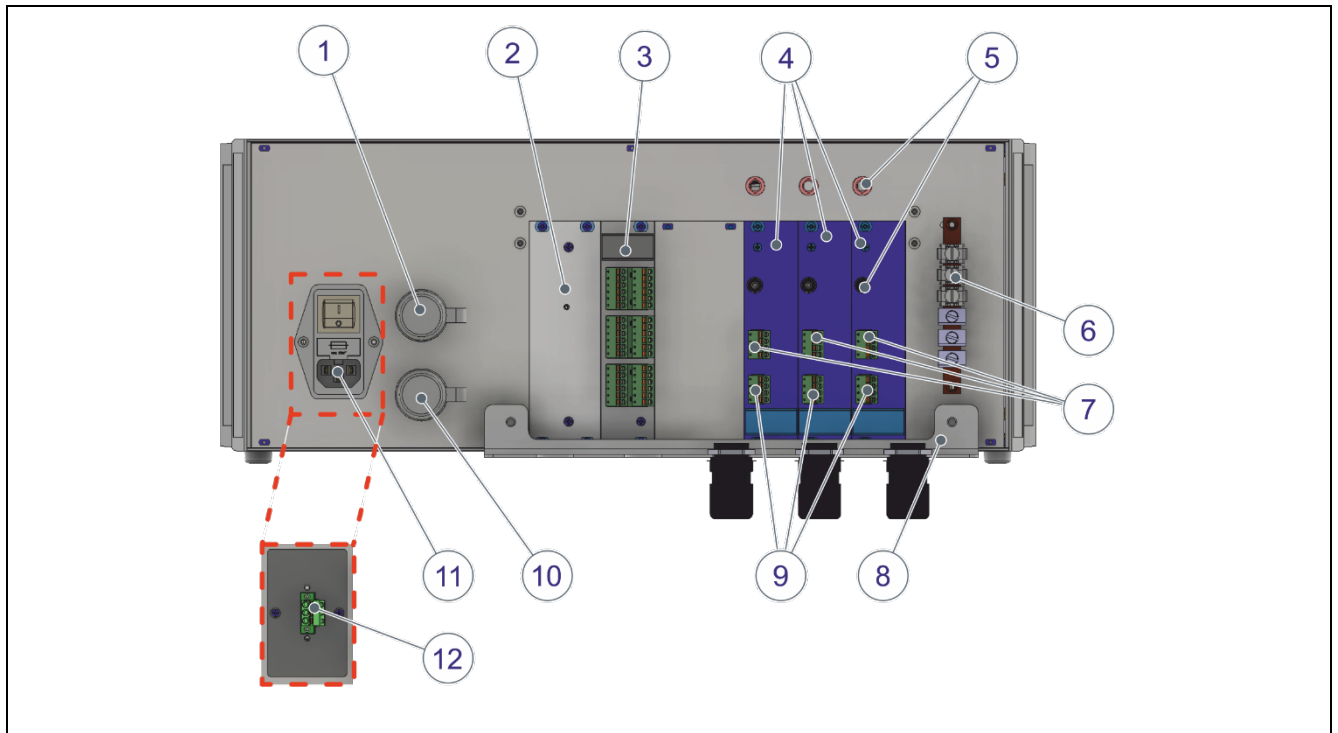

Figure 4-2: Device overview front side and inside
- ▶ Additionally you can connect the grounding cable to the grounding bar on the backside (see *Figure 4-2 on page 19*).
- ▶ Connect the power cable to the device (see *Figure 4-2 on page 19*).